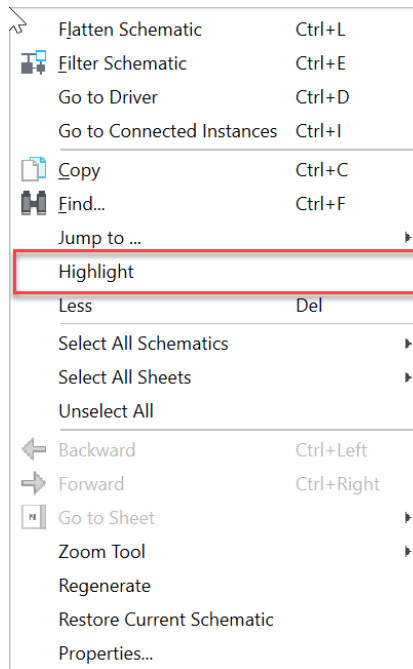

Figure 3.22. Highlight Option
- Choosing the **Highlight** option, shown in Figure 3.22, allows you to toggle the visibility of the net’s highlighting. This feature is useful for easy tracking and tracing especially in complex designs where multiple nets may be overlapping. You can revert the highlighted object by choosing **Unhighlight** option.